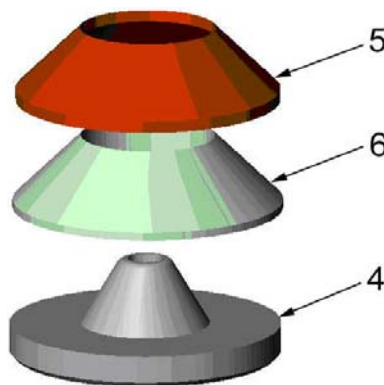

Figure 6
2.4 Install one of the Pellets (item #6) onto each Backup, see Figure 6.
2.5 Place one of the Liners (item #5) onto each Pellet, see Figure 6.